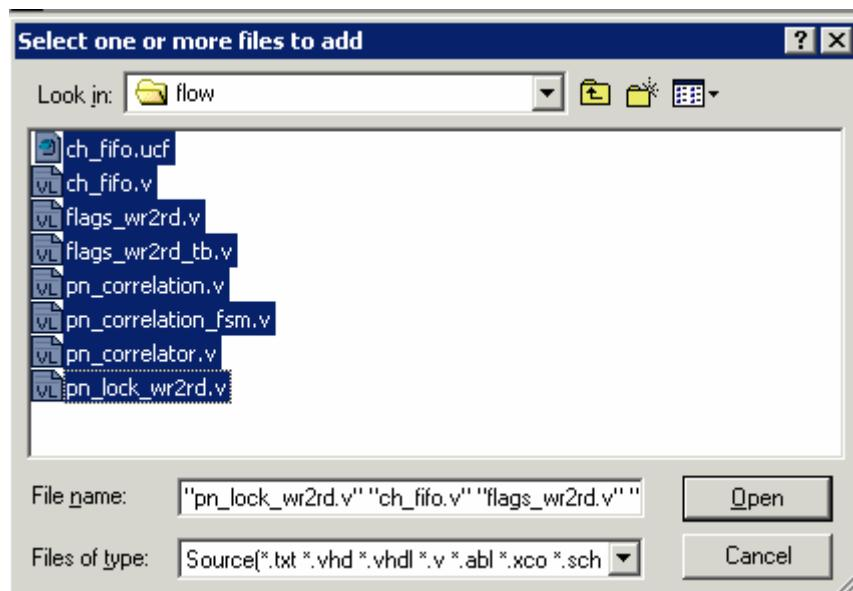

Figure 1f-5. Adding Existing Sources to Project
- ① Click **Add Source** and browse to the *R:\training\fund\labs\flow* folder
- ② To select all of the files, click the **first file** and, while pressing the **Shift** key, click the **last file** as shown in **Figure 1f-5**. Click **Open**